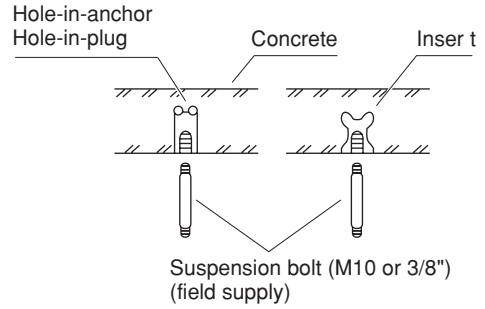

Fig. 3-99
- Insert suspension bolts as shown in Fig. 3-99
- (2) Screw in the suspension bolts allowing them to protrude from the ceiling as shown in Fig. 3-99. (Cut the ceiling material, if necessary.)